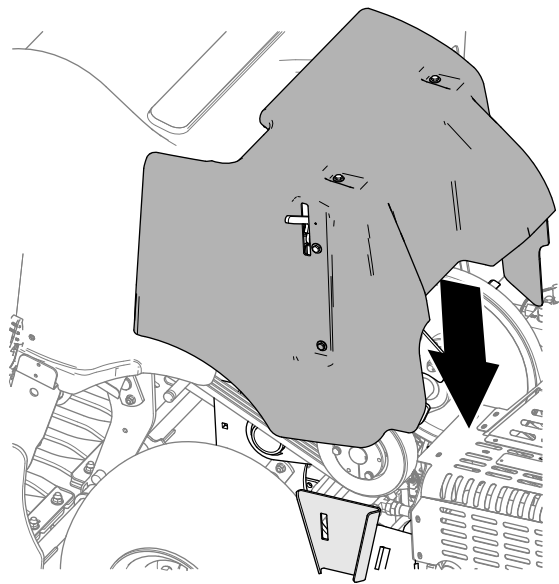

Figure 134
- Lower the belt cover (Figure 134).